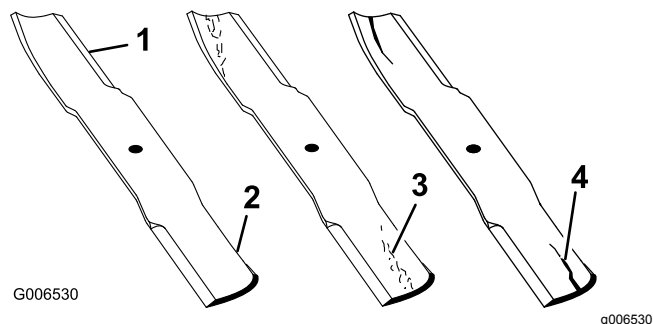

Figure 77
- Inspect the cutting edges (Figure 77).
- If you notice any cracks, wear, or a slot forming in this area, immediately install a new blade (Figure 77).